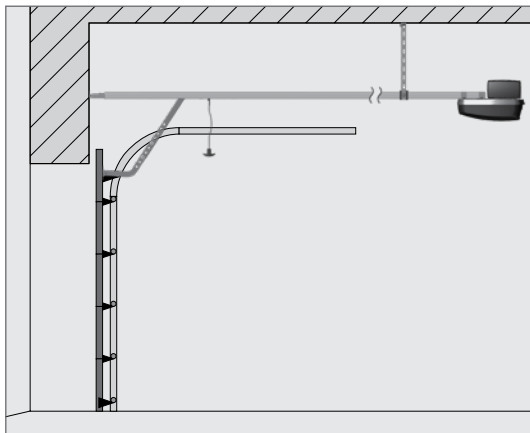

FIGURE 4
- The drive rail must be parallel with the ceiling as shown in Figure 4.